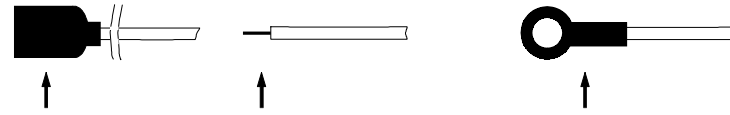

Figure 1 - Battery Connector Modification for large AH Batteries
7. Connect the input zones to the terminals located on BS3 and BS4 (if EEM-8 is installed). Make sure to use the supplied END OF LINE resistors as shown in Figure 1. The SC800/1600 panels can be programmed to not use end of line resistors (if required). This is done in location 30, section 1. Closed circuit loops are wired in series with the resistor, open circuit loops are wired parallel to the resistor. All Fire zones require the use of the 2.2K EOL resistors.
9. Connect the F.C.C. approved telephone connection cable to terminals 20, 22, 23, and 24 as shown in Figure 1. Insulate all unused leads. **THE CABLE MUST BE PHYSICALLY SEPARATED FROM POWER AND SIGNAL LINES.**
Note: The Instructions and drawing shown in Figure 1 below are used when a large AH battery with screw terminals is used with the SC1600 control panel. The Tongue connectors are shipped with the SC1600 panel only.